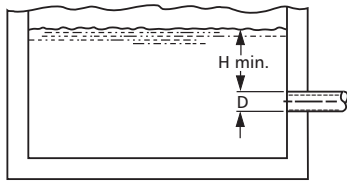

Figure 1
3.6. Size of inlet from liquid source, and minimum submergence over inlet, must be sufficient to prevent air entering pump through vortexing. See Figures 1 through 4.